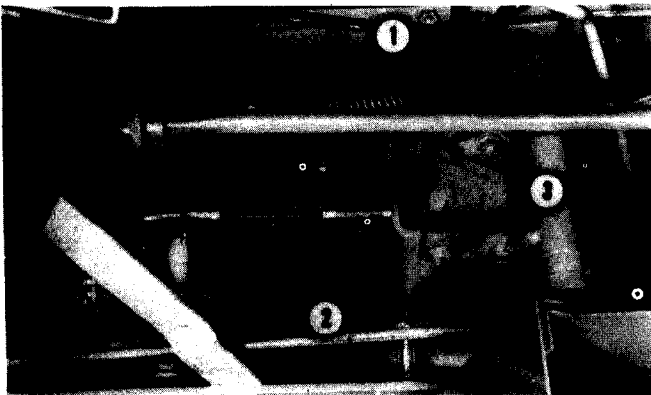

FIG. 4.15-GEARBOX RETAINING BOLT
- b. Install bolts and tighten securely. Fig. 4.15.